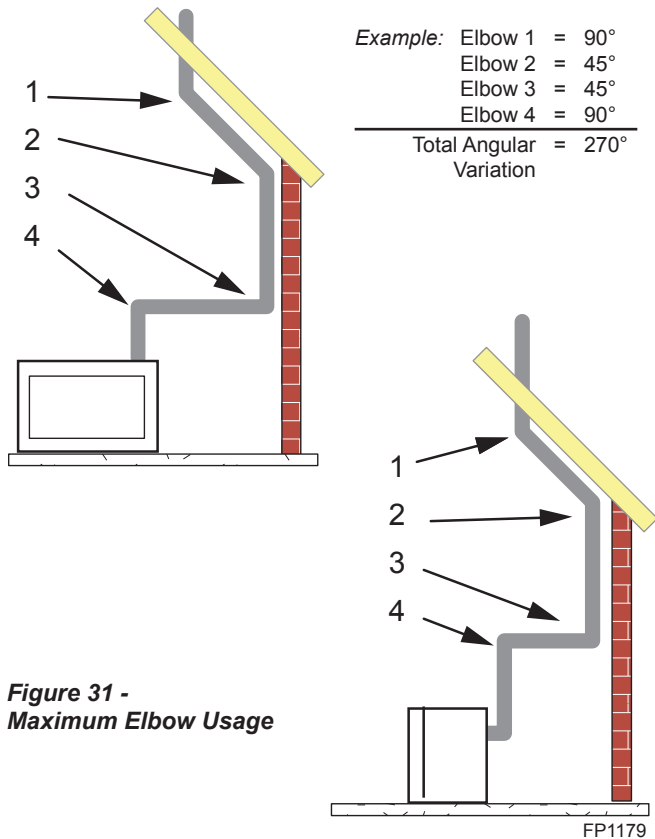

Figure 31 -
- Two sets of 45° elbows offsets may be used within the vertical sections. From 0 to a maximum of 8' (2.5 m) of vent pipe can be used between elbows. Figure 31
- The maximum angular variation allowed in the system is 270°. *Figure 31*